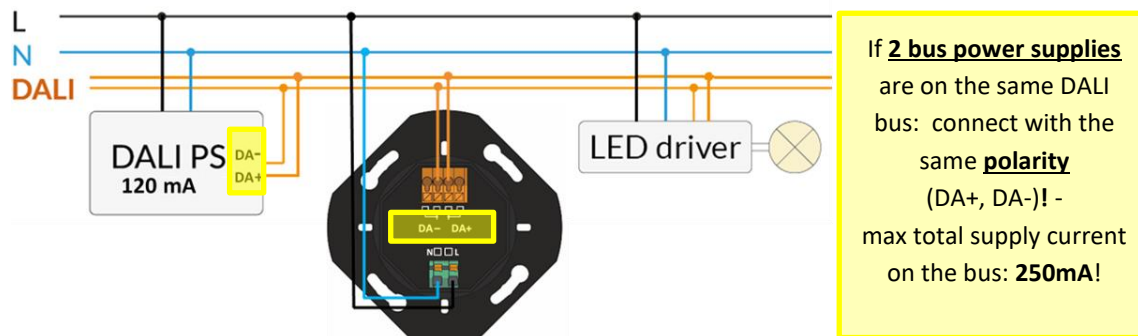

Figure 1. Installation Example DALI-2 ROT PS with additional DALI PS on the DALI Bus
- **DALI-2 ROT PS:** If 2 or more bus power supplies are on the same DALI bus, they need to be connected with the same polarity! (connectors marked with DA+, DA-), see Figure 1, page 8.